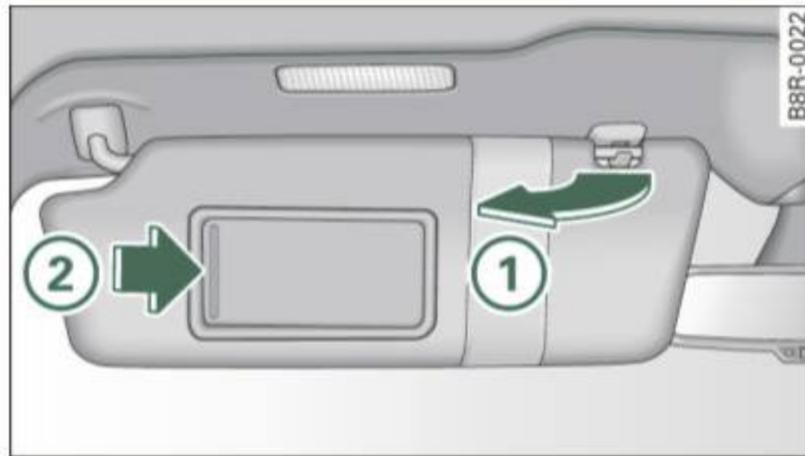

Fig. 59 Sun visor
The sun visors for the driver and passenger can be pulled out of their brackets in the center of the vehicle and turned towards the doors ⇒ fig. 59 ①. After the sun visor has been turned to the door, it can be extended* lengthwise.